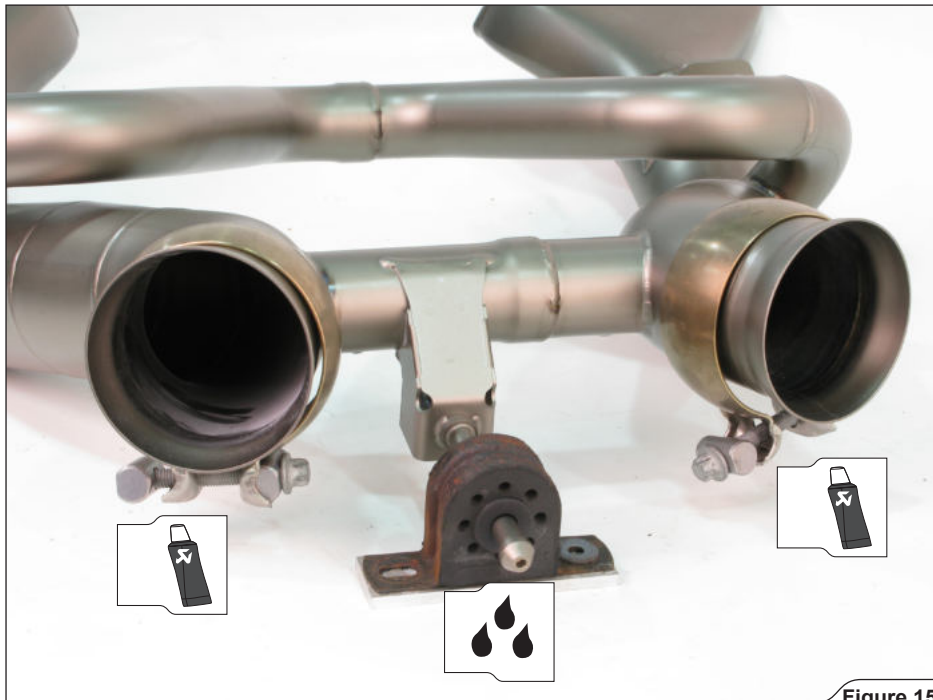

Figure 15
5. Correctly orient the stock clamps and install them onto the muffler's inlets. Slide the stock rubber bracket onto the muffler's pin (**Figure 15**).